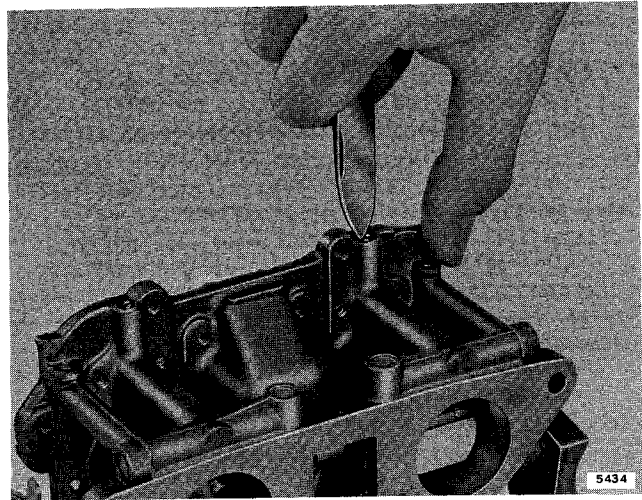

Figure 3-22. Removing Lead Shot
b. If leakage still exists, remove the lead shot with an appropriate sharp tool. See Figure 3-22.